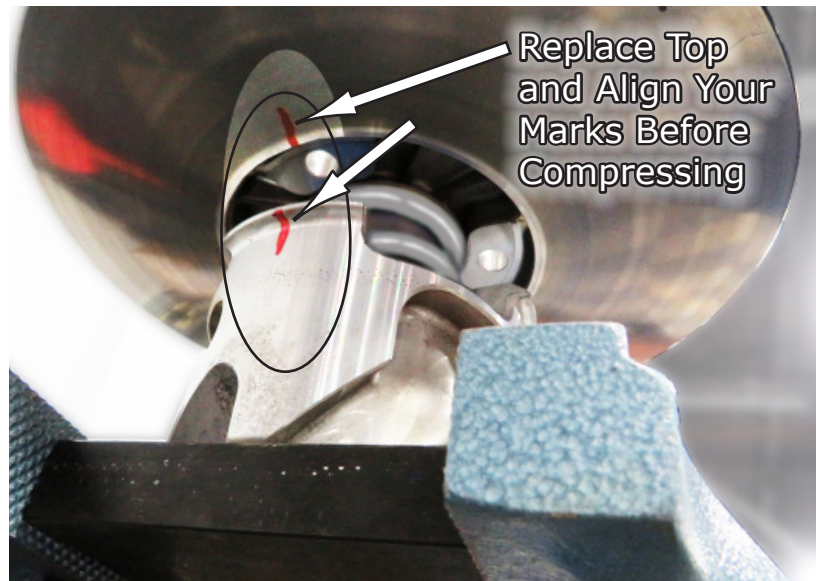

Fig.15
15. After inserting your new spring and Top Hat Washer, replace the top and align the markings you drew before separating previously. See **Fig.15**.